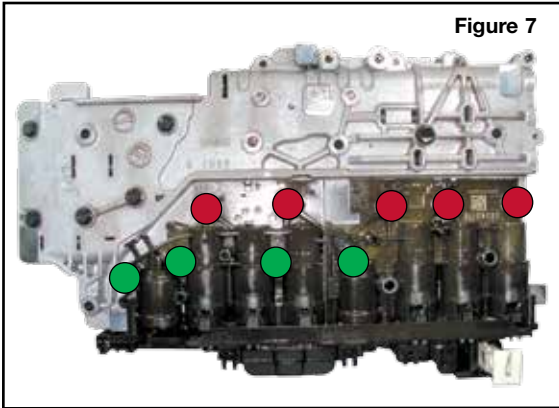

Figure 7
- Remove the four 10mm head and five 7mm head bolts (**Figure 7**). Remove the TEHCM and set aside for inspection, testing and cleaning.
- Install the four 10mm head and five 7mm head bolts and *hand-tighten only* (Figure 7).